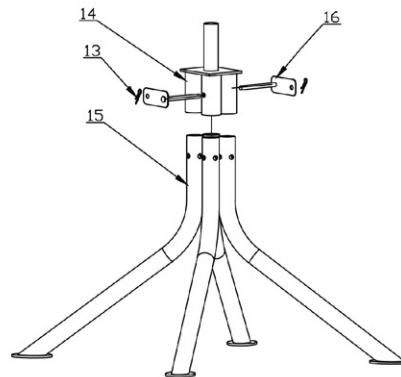

Fig.7
Insert the four feet (15) into the stand connector (14) and secure with the two riveted pin plates (16) and R-clips (13) provided. (Fig.7)